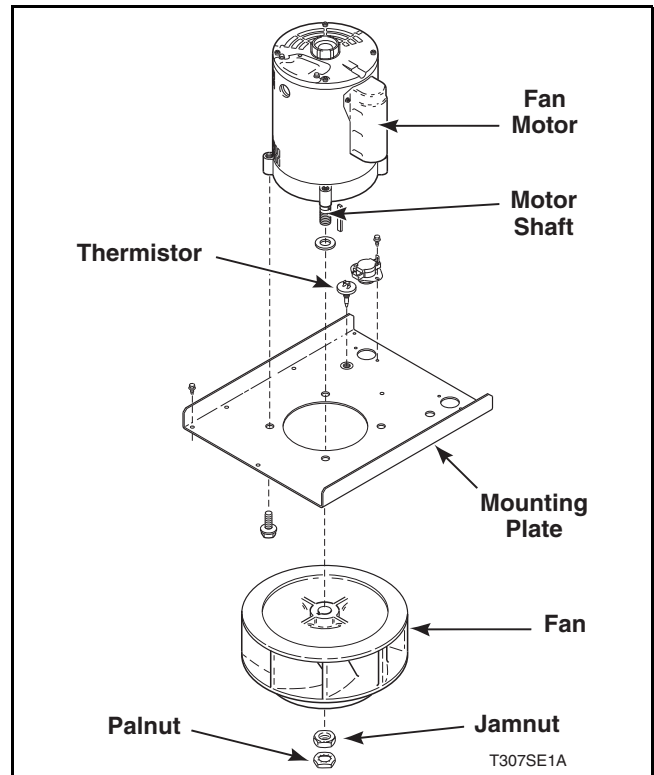

Figure 40
- g. Remove jamnut and palnut holding fan to motor shaft. Refer to *Figure 40*.
Refer to *Figure 40*.